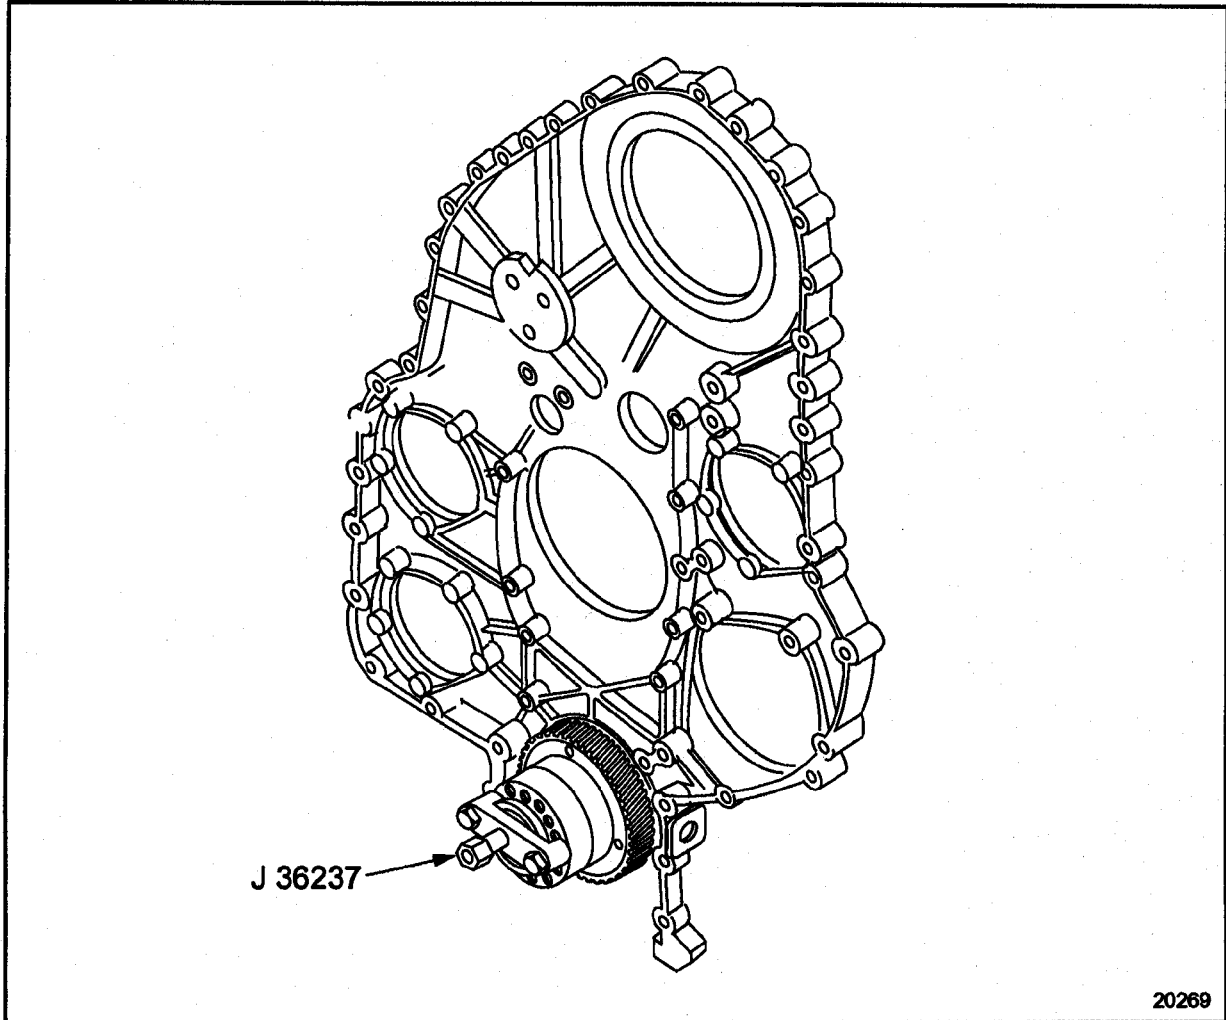

Figure 1-369 Barring Engine Over
5. Secure J 36237, to the front of the crankshaft. See Figure 1-369.